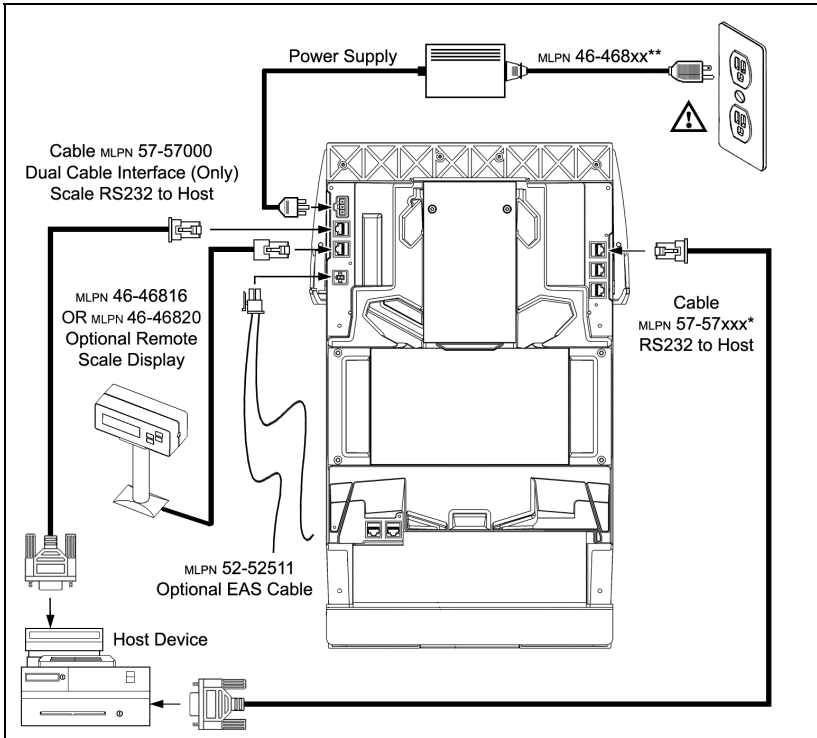

Figure 34. RS232 Interface Cable Installation Schematic
2. Connect the RS232 interface cable to the 1st 10-pin socket on the bottom of the scanner near the serial number label. Refer to figure 34 on page 33.
Connect the scale/host cable to the 1st 10-pin socket on the bottom of the scanner next to the 3-pin Molex plug. Refer to figure 34 on page 33.